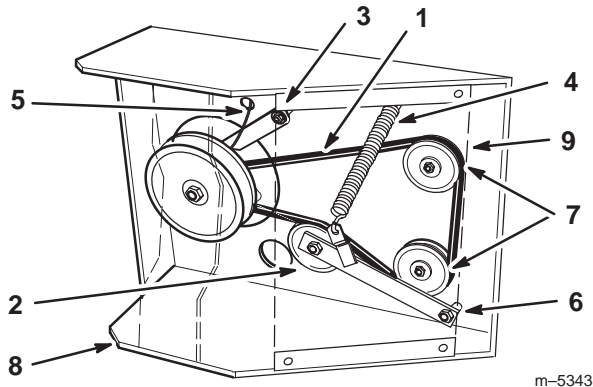

Figure 57
4. Remove clutch retainer from the engine deck (Fig. 57).
5. Unhook tension spring from side of frame (Fig. 57).
8. Torque pivot bolt to 35-40 ft. lb. (47-54 N.m). Install tension spring between idler arm and frame bracket (Fig. 57).
9. Install clutch retainer to the engine deck (Fig. 57).